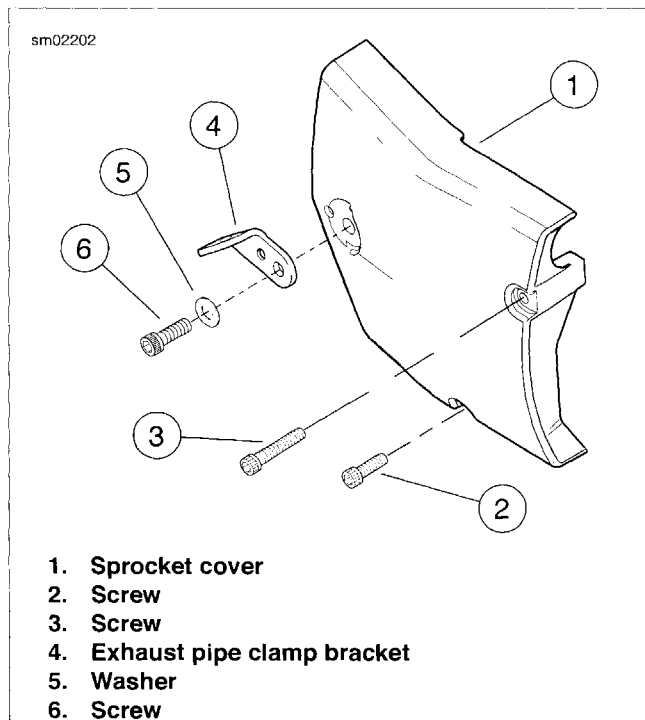

Figure 4-71. Sprocket Cover
1. See Figure 4-71. Remove screw (6), washer (5) and exhaust pipe clamp bracket (4). Remove two screws (2, 3). Remove sprocket cover (1).
3. See Figure 4-71. Install sprocket cover (1). Secure with two screws (2, 3). Note that long screw goes in top hole, short screw in bottom hole. Do not tighten screws at this time.
4. Install exhaust pipe clamp bracket (4), washer (5) and screw (6). Tighten to 30-33 ft-lbs (40.7-44.8 Nm). Now tighten screws (2, 3) to 80-120 **in-lbs** (9.0-13.6 Nm).